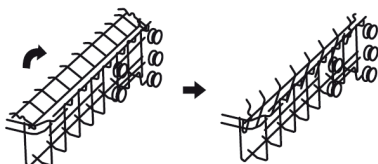

Fig.9
- You can tilt the stand and adjust it in height (Fig.9).